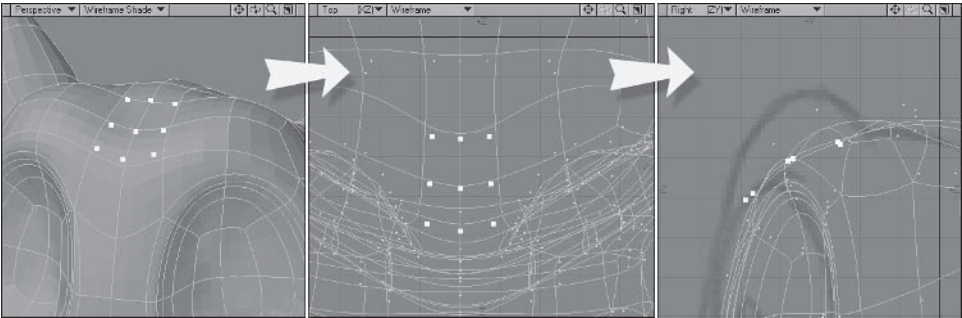

Figure 5.3-88. Adjusting the forehead.
13. Select the nine points shown in Figure 5.3-88. From the Top view, **Stretch** the points vertically to about **80%**, then move them down to match Figure 5.3-88.